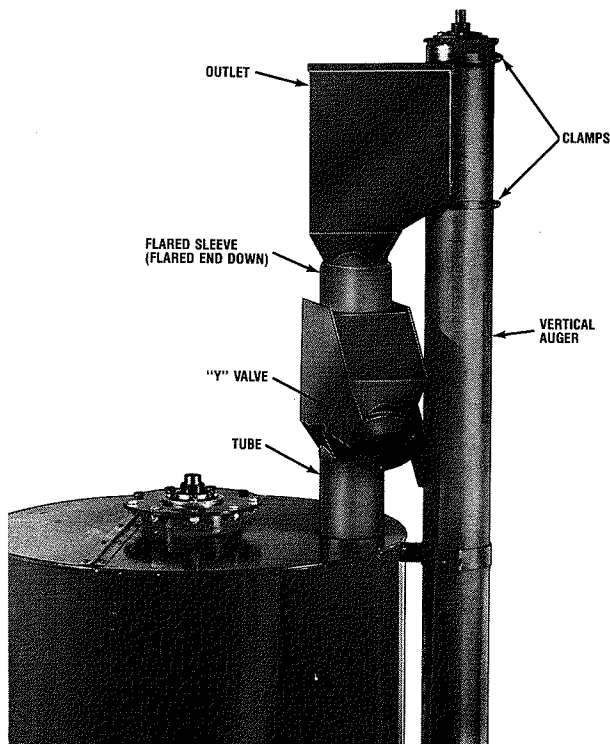

FIGURE 1
(G) Install the auger outlet, "Y"-valve, flared sleeve, and tube. The relationship of these parts is shown in Figure 1.